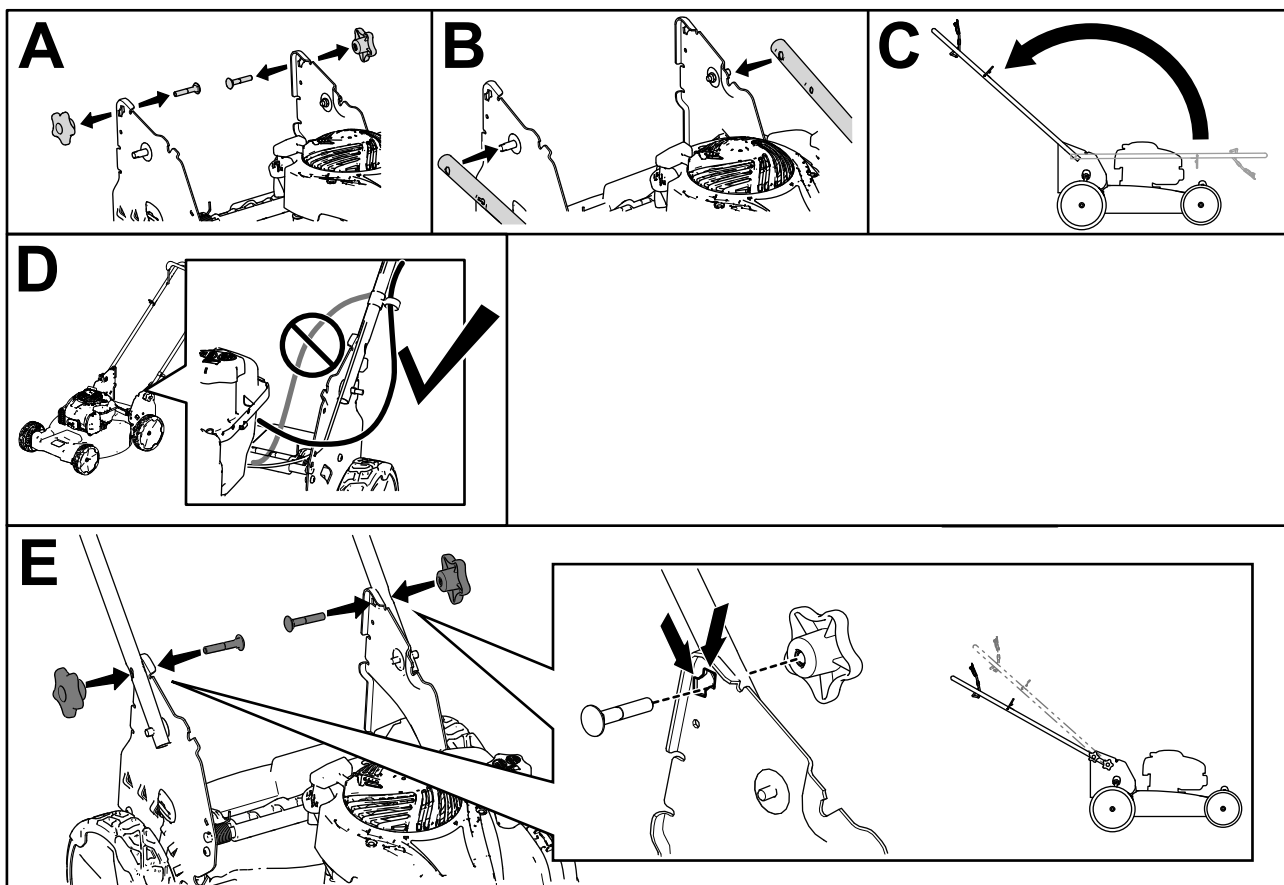

Figure 3
1. Remove the handle knobs and the carriage bolts from the handle brackets (A of Figure 3).
2. Attach the handle to the machine using the holes at the end of the handle (B of Figure 3).
3. Move the handle rearward to the operating position (C of Figure 3).
4. Ensure that the cables are routed to the outside of the handle (D of Figure 3).
5. Secure the knobs and carriage bolts to lock the handle into the upper or lower operating position (E of Figure 3).